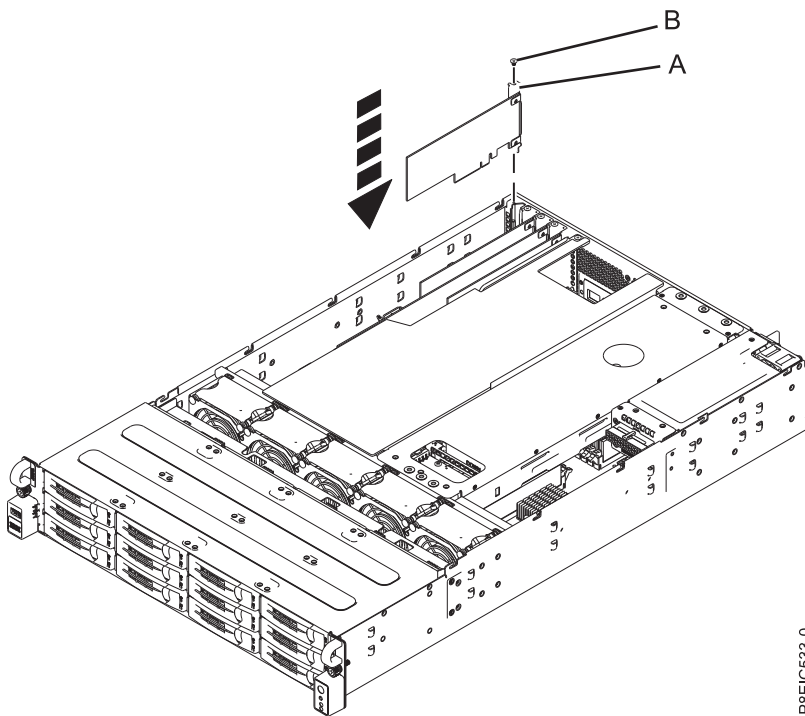

Figure 47. Installing the PCIe3 low profile 6 Gb SAS/SATA RAID adapter (FC EC3Y - PMC 71605E) (A) and screw (B) in the system
- b. Insert the RAID adapter (A) into the adapter slot of the system backplane PCIe, aligning the adapter properly and inserting it fully into the slot.
- c. Insert the retaining screw (B) and tighten it to secure the RAID adapter in the system, as shown in Figure 47.